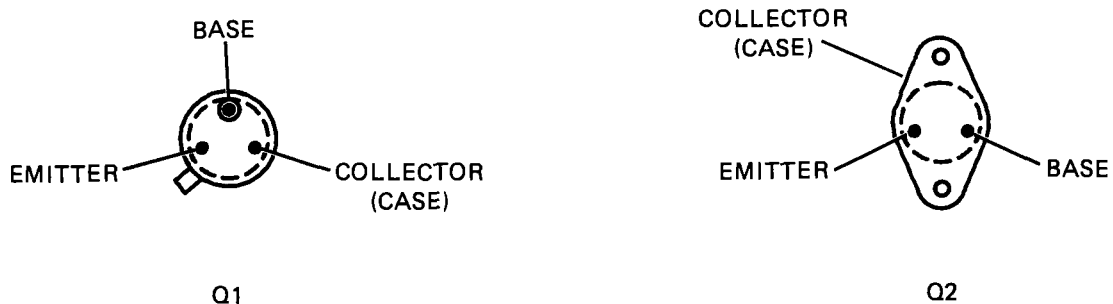

Figure 5-14. Q1 and Q2 Transistor Pin Out Locations.
- (d) Test transistor with a multimeter (set to read ohms). Refer to Figure 5-14 and Table 5-1. Multimeter (+) and (-) refer to the multimeter test leads.
- (7) Test transistor Q1.
- (c) Test transistor with a multimeter (set to read ohms). Refer to Figure 5-14 and Table 5-2. Multimeter (+) and (-) refer to the multimeter test leads.